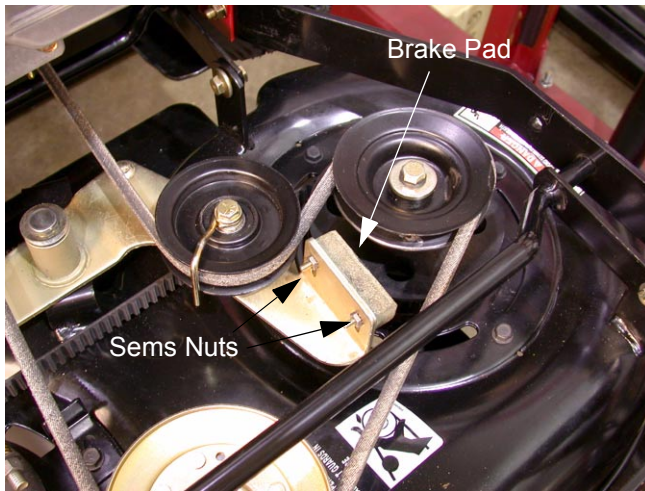

Figure 21
- 6.4. Using a socket remove the Sems nuts and flat head screws securing the brake pad to the idler arm and remove the old brake pad. See Figure 21.